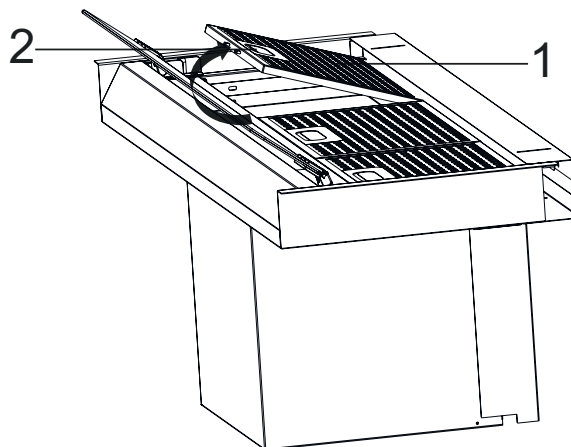

Fig. 15
1. ➤ Remove the appliance package and place the aluminium filters facing upwards. (Fig. 15).
Press the aluminium filter latch (Fig. 15/1) and pull upwards (Fig. 15/2) to remove.